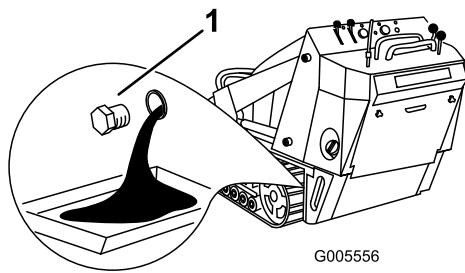

Figure 38
4. Remove the drain plug (Figure 38).